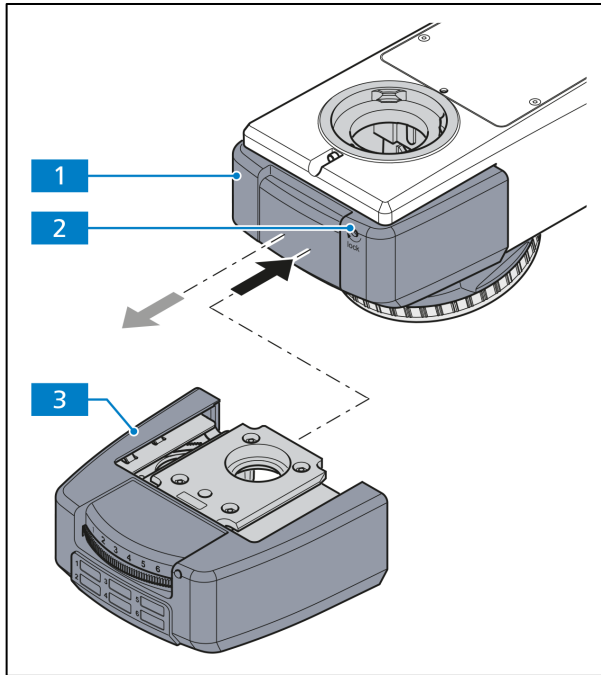

Fig. 3-9 Mounting the reflector insert
- First, remove the cover cap (Fig. 3-9/1) by inserting the Allen wrench (AF 3) into the slot (Fig. 3-9/2). Turn the locking screw counterclockwise and pull the cover cap forward.
- Push the reflector insert (Fig. 3-9/3) with the reflector modules P&C (e.g. reflector turret with 6 coded positions) into the upper part of the stand until it stops, hold it and tighten the locking screw again.